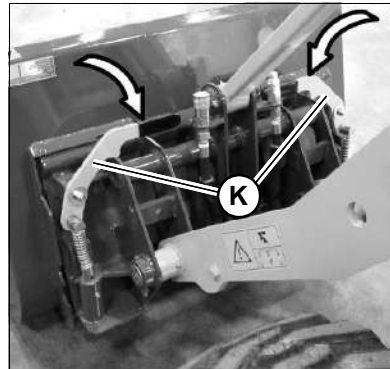

Figure 44 – Standard All-Tach® System Hitch Locked
4. Push the locking handles (K, Fig. 44) inward and downward until the attachment is locked onto the hitch as shown.
4. Make sure the attachment is securely locked onto the hitch: the locking handles (K, Fig. 44) must be horizontal, with the lip on the attachment completely engaged over the top of the hitch, and the hitch pins on the bottom of the hitch fully engaged down into the attachment.